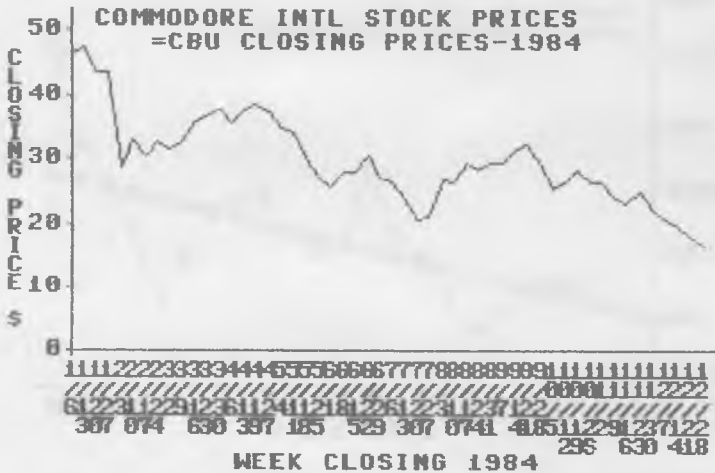

Figure 7
To demonstrate the average use, there is a data set on disk which has Commodore stock prices at the end of each week for all of 1984. The filename is CBU WEEKLY. Restart CHARTPAK with 4 data sets of 55 each (default) by going to menu [1/4]. Then read the data set into memory (and the data group names). There is a spec file with the same name to make the charting easy. These prices can be charted as in Figure 7. If you turn the data group names vertical on the bottom and select no character for the line symbol [3/3/1]. To compute and display the average, go to [1/6/2] and select the price data set (1) to be averaged. Note that the total, average and standard deviation is shown.